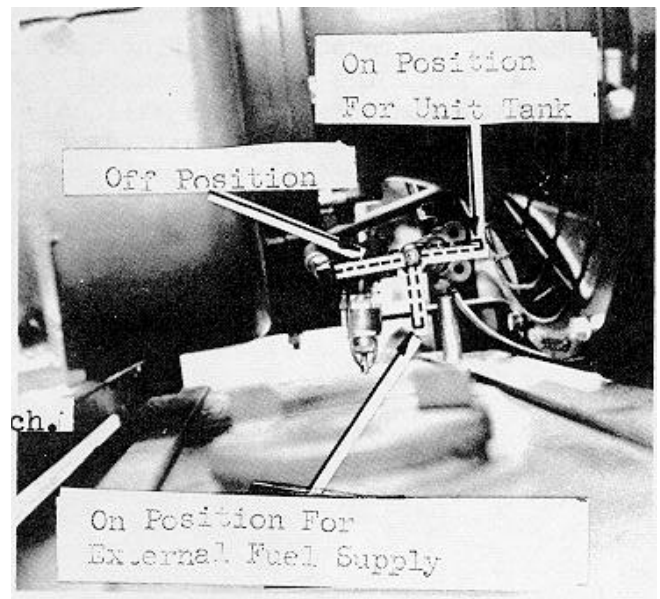

FIGURE 2-3. FUEL SHUT-OFF VALVE
3. Move fuel shutoff to proper position for fuel source being used (Fig. 2-3).
NOTE: The governor has been preset to 3200 RPM, making additional adjustment unnecessary. FIGURE 2-3 FUEL SHUT-OFF VALVE The choke is located at the front of the engine & is electrically operated, making manual choking unnecessary.